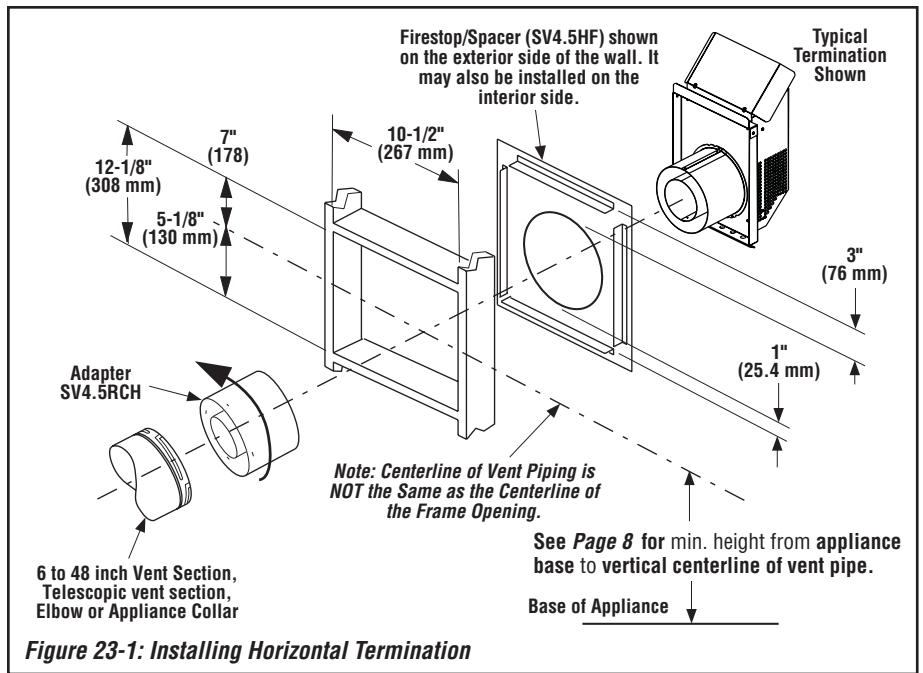

Figure 23-1: Installing Horizontal Termination
- a) If not already done, prepare an opening as described in *Figure 23-1*.
- b) Assemble the vent system to the point where the end of the last section is within 5 to 8-1/2 inches (127 to 216 mm) inboard of the exterior surface to which the termination will be attached. See *Figure 23-1 and 23-3*.
See *Figure 23-1*. Install the **firestop/spacer** over the opening at the exterior side of the framing, long side up, with the 3-inch spacer clearance at the top, and nail into place. (The firestop/spacer also may be installed over the opening at the interior side of framing).